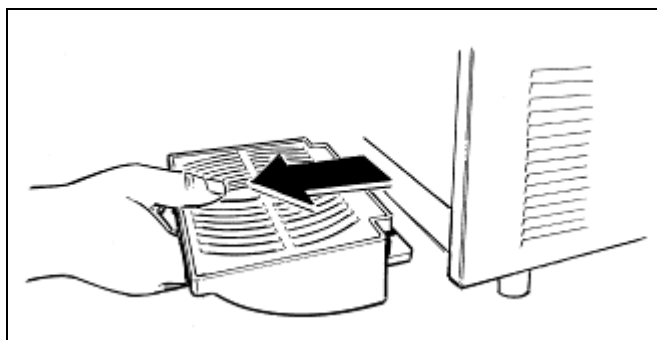

Fig. 12
- **R**emove the drip tray and pulling it forward (see figure 12). **W**ash each part thoroughly, then reassemble the parts by inversely following the procedures described above.